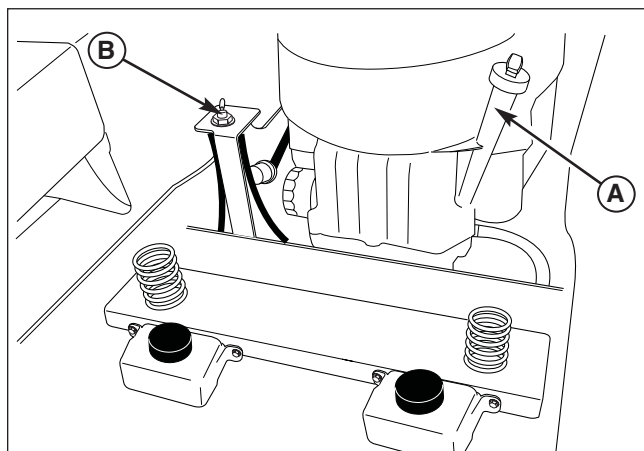

Figure 3. Checks Before Starting
- Check that crankcase is filled to full mark on the engine oil dipstick (A, Figure 3). See the engine Operator's Manual for instructions and oil recommendations.
- Make sure the fuel selector valve (B) is in the "ON" position.